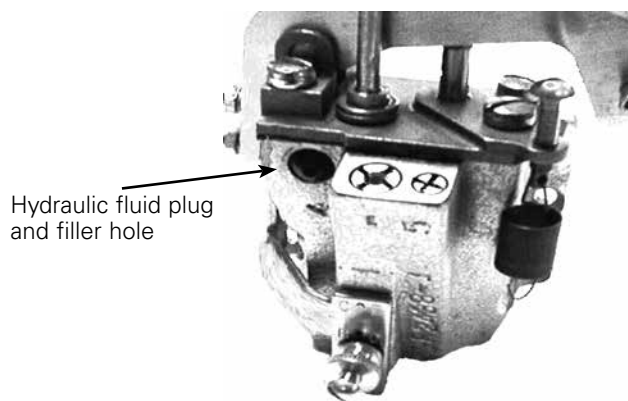

Figure 1. Hydraulic fluid plug location.
2. Observe if hydraulic fluid leaks from the hole (Figure 1) and proceed as follows.